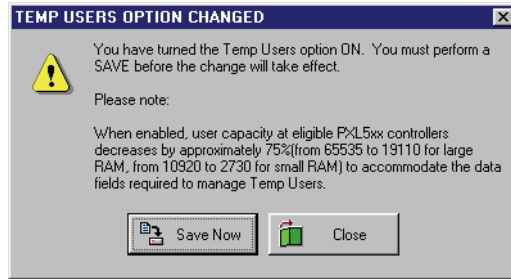

Figure 2-31: Temp Users Option Changed - ON
3. To enable temp users, click in the check box beside the Temp Users ON field. A check mark appears in the check box and the following window appears (see Figure 2-31 on page 27 of this section).